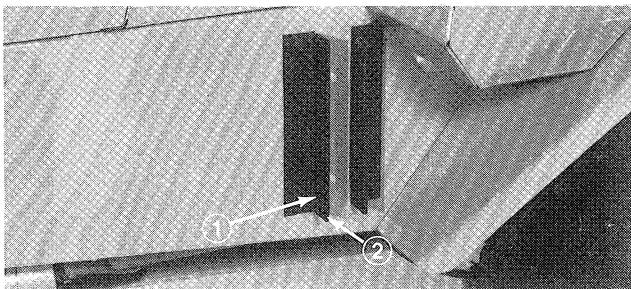

Figure 2
2. Mark and drill (8) $13/32$ " dia. holes at locations shown on template.
3. Positioning brackets as shown in Fig. 2, and using appropriate bracket holes, mount brackets to frame with (1) $3/8$ -16x2" lg. capscREW, (7) $3/8$ -16x1 $1/4$ " lg. capscREWS, (8) $5/16$ washers, and (8) locknuts. Use 2" lg. capscREW to secure bottom of rear bracket.